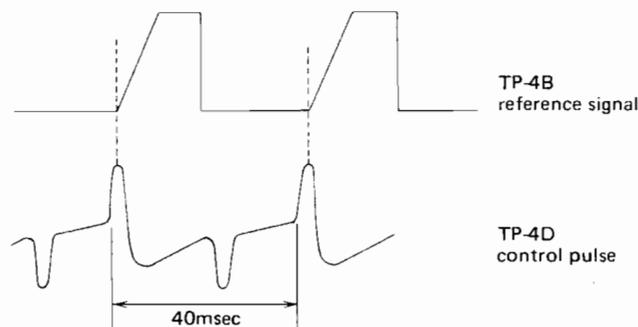

Fig. 2-3 Tracking Preset
3. Connect dual-trace oscilloscope CH1 to TP-4D and CH2 to TP-4B respectively, and adjust VR404 so that TP-4D pulse coincides with the rise point of TP-4A slope. (Refer to Fig. 2-3)